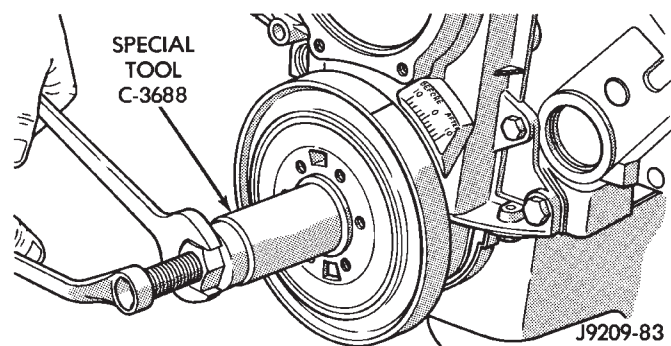

Fig. 26 Installing Vibration Damper
- (1) Position the vibration damper onto the crankshaft.
- (2) Place installing tool, part of Puller Tool Set C-3688, in position and press the vibration damper onto the crankshaft (Fig. 26).